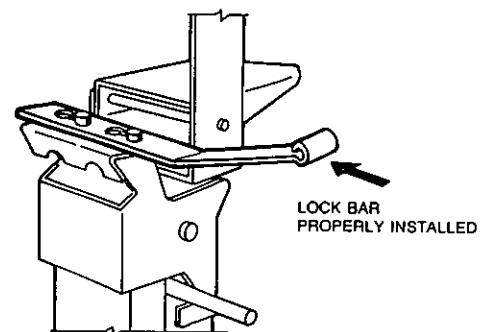

FIGURE 52
12. Remove the cocking lever and insert lock bar (Part No. 14985) on left side of cable lever, over the two shouldered projecting stud extensions, and slide the bar forward into the locking position. (The regulated release mechanism cannot be actuated, nor can enclosure cover be replaced until the lock bar is removed.) See Figure 52.